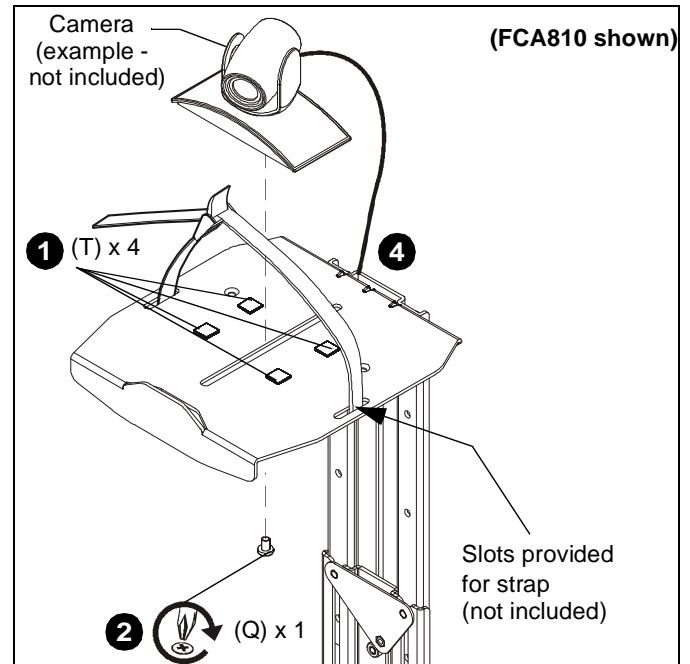
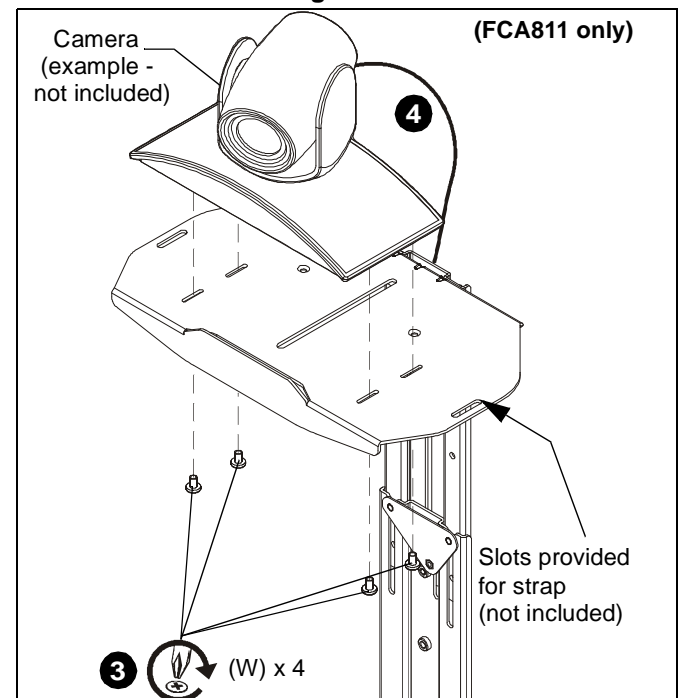

Figure 27
Figure 28
**WARNING:** Camera must be secured to FCA810/811 shelf using either adhesive hook and loop squares (T) or screws (Q or W)! Failure to securely mount camera to shelf may result in serious personal injury or damage to equipment!
**NOTE: OPTIONAL:** Slots are provided in shelf for strap (not included) to hold camera in place. (See Figure 27)
2. (Single Screw option) Install 1/4-20 x 3/8" Phillips pan machine screw (Q) through mounting slot on shelf and into hole on bottom of camera. (See Figure 27)
3. (Multiple screw option - FCA811 only) Install four #4-48 x 1/4" Phillips pan machine screws (W) through outside mounting slots and into holes on bottom of camera. (See Figure 28)
4. Route cable from camera towards back of shelf and down behind the FCA810/811. (See Figure 27) and (See Figure 28)